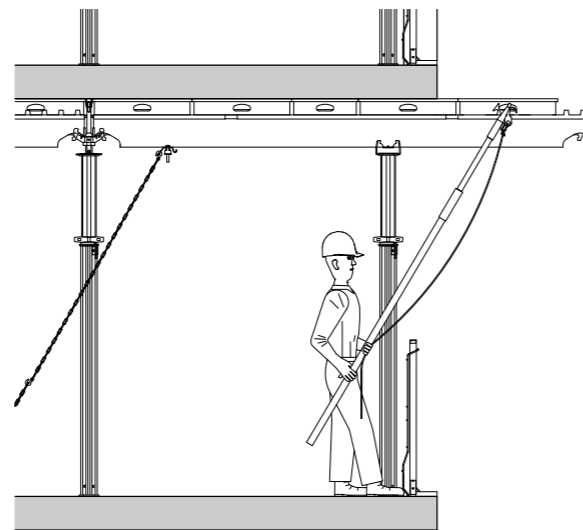

Fig. A9.24
1. Attach the carabiner to the panel clip SPK at the outermost panel with the boat hook and hold / secure the attached rope. (Fig. A9.24)